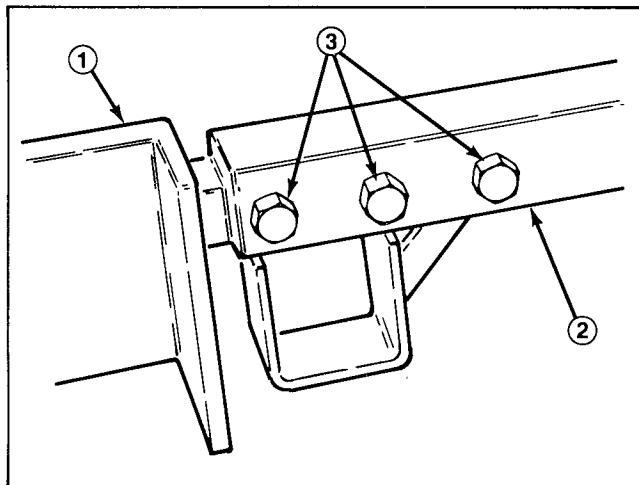

Figure 3
2. Slide carrier frame onto lift arms aligning mounting holes. Secure each side of carrier frame to lift arms with (3) 1/2 - 13 x 1-1/2" lg. capscrews. Torque capscrews to 70-80 ft-lb. (Fig. 3).